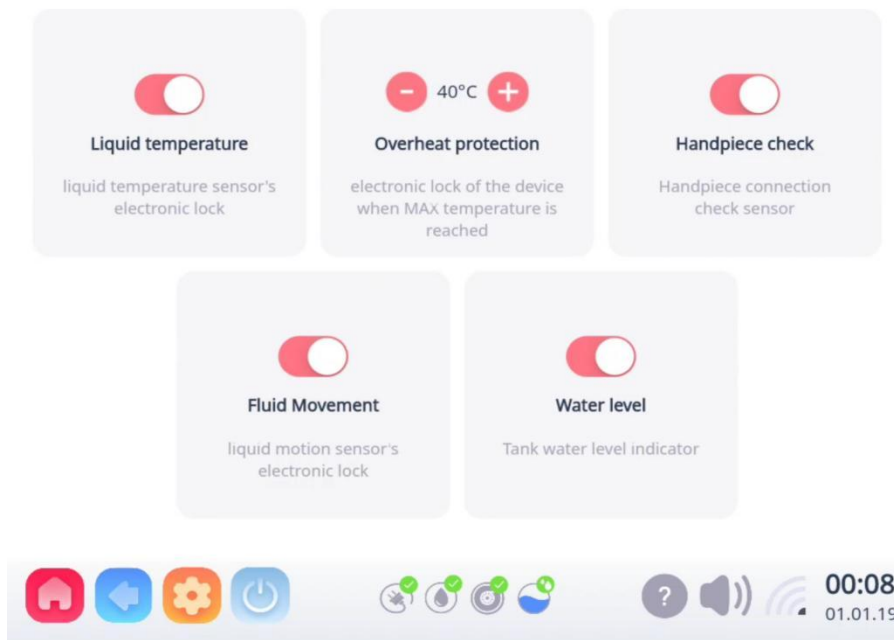

Figure 5.4-25
- Click “status and lock” to lock and detect liquid temperature、overheat protection、handpiece check、fluid movement and water lever(see Figure 5.4-25)